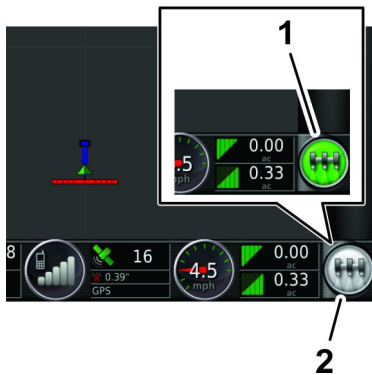

Figure 281
- On the GeoLink control console, press the MASTER SWITCH icon (Figure 281) to the ON (green).